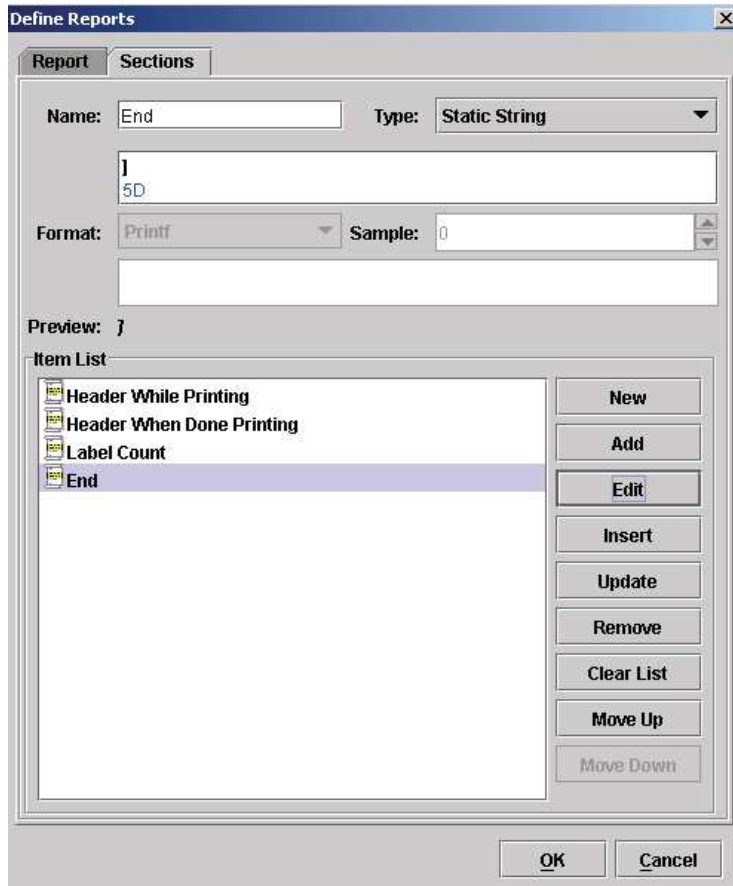

Figure 213 Creating a Sections Item List
16. Click **Add**. The End section is added to the Item List pane (Figure 213).